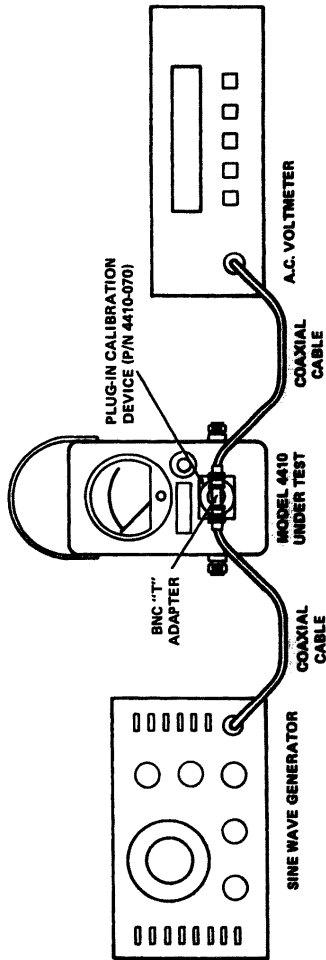

Figure 5-3. Calibration Setup
- (2) Connect the sine wave generator and voltmeter to a BNC T adapter as shown in figure 5-3 with 50 ohm coaxial cables, such as RG 58/U, no more than three feet long (1 meter).
- (a) Connect the sine wave generator to the calibration element, Part No. 4410-070, and voltmeter as shown in figure 5-3.